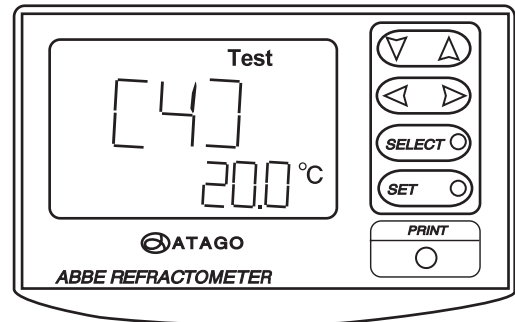
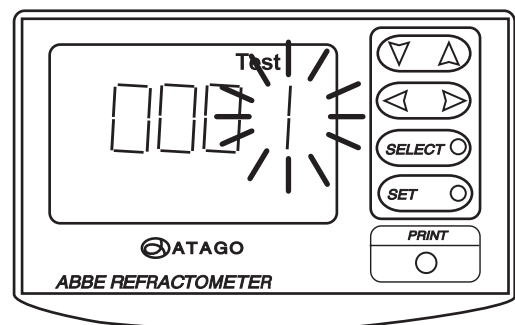

Fig.11-2
Fig.11-3
① Press the SELECT key to select the "Test" mode.
② Display the [4] on the screen, using the ∇ Δ keys (Fig. 11-2). Press the SET key. The screen in Figure 11-3 will appear.